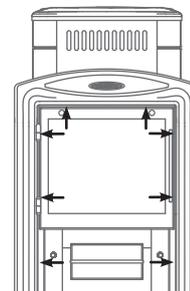

Figure 6. Door disassembling under installation of the stove «Vitra»
1. Unscrew self-tappers 8 ps. that fixes a door with a frame to a fuel canal and remove a door; (see Figure 6)